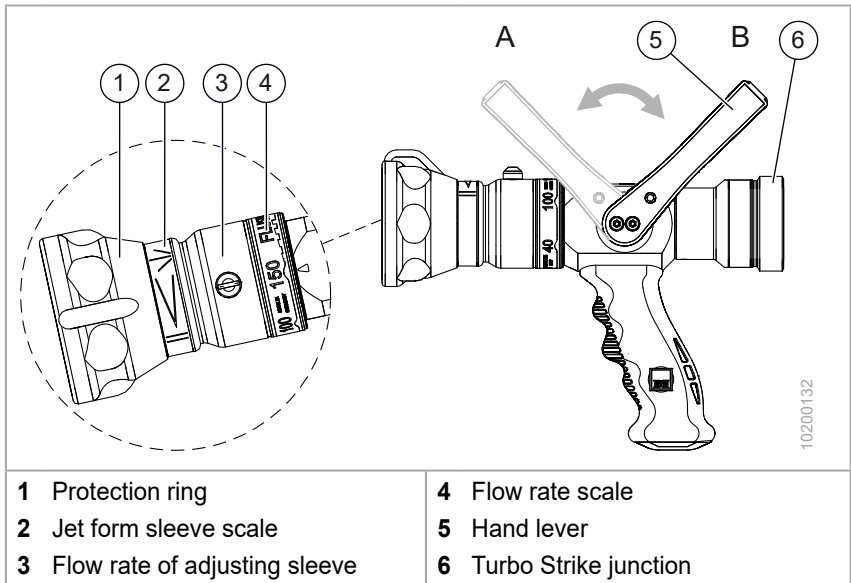

Fig. 2 Handling
- ✓ The hand lever is closed (Fig. 2/A).
1. Connect the water hose to the coupling or thread of the Turbo Strike (Fig. 2/6) according to the coupling system used.
2. Set the adjusting sleeve (Fig. 2/3) to the desired flow rate (Fig. 2/4).
2. Pull the hand lever (Fig. 2/5) back towards yourself in the OPEN (Fig. 2/B) position.
The extinguishing agent discharge is started. As soon as the hand lever is moved forward again to the CLOSED (Fig. 2/A) position, the extinguishing agent discharge stops.
1. By turning the protection ring (Fig. 2/1) you can switch between full and spray jet during use:
1. Push the hand lever (Fig. 2/5) forward to the CLOSED (Fig. 2/A) position away from the body.
3. Turn the adjusting sleeve (Fig. 2/3) into the flushing position (turn the adjusting sleeve beyond the maximum position to the 7 o'clock position).
4. Disconnect the water hose from the coupling or thread of the Turbo Strike (Fig. 2/6) according to the coupling system used.